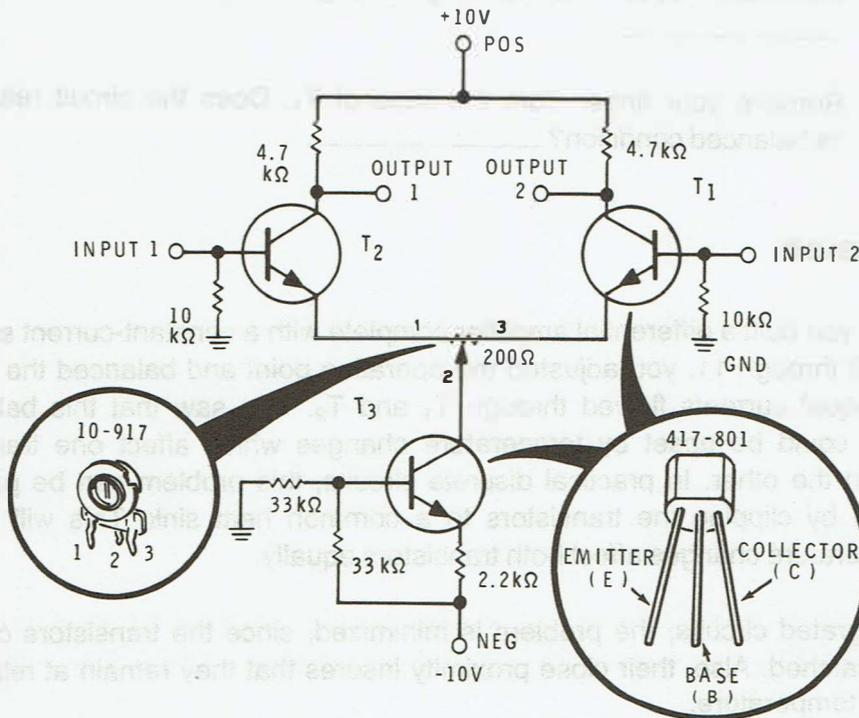

Figure E10-3
- Construct the circuit shown in Figure E10-3. Adjust the “+” voltage control for 10 volts between the POS and GND terminals. Adjust the “-” voltage control for 10 volts between the NEG and GND terminals.